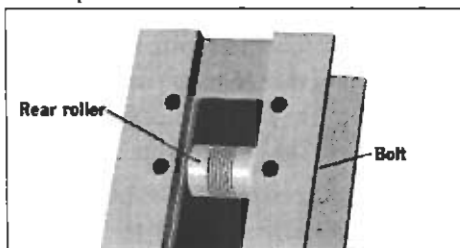

Figure 12
4. Use the 7/16-inch socket with extension, and a 7/16-inch wrench or pliers to remove the nut and bolt securing the rear roller assembly to the side rail (Figure 12). The roller assembly will drop out from the side rail.